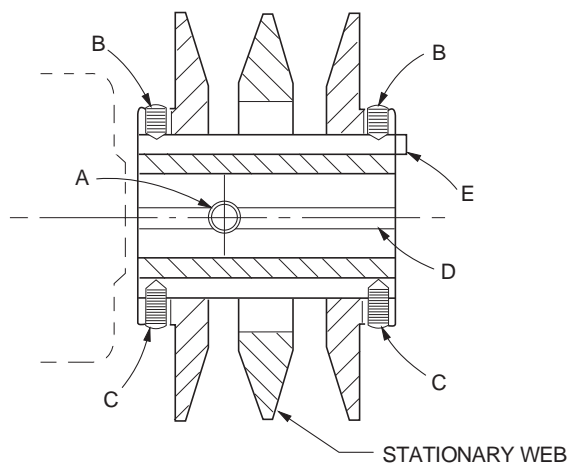

Figure 26: Double Groove Pulley
Twin groove blower motor pulleys should be installed with the shaft set screw (A) towards the motor (see Figure 26).